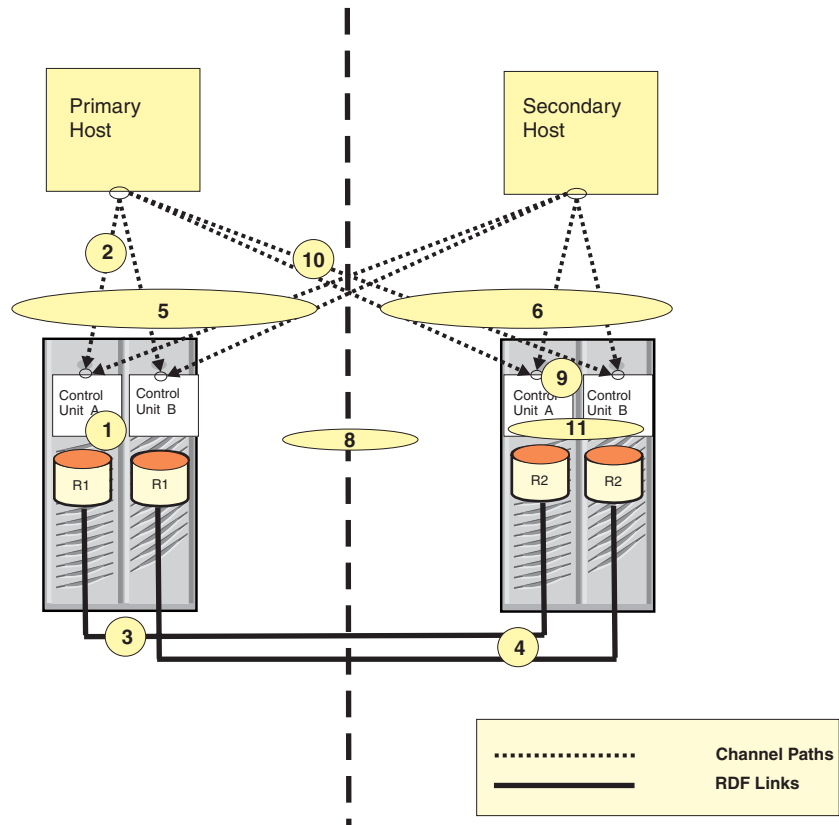

Figure 1-2 Possible Failure Events
Storage configurations can present a large number of potential failure events. Figure 1-2 on page 1-10 identifies 11 possible events:
These failure types marked in Figure 1-2 include loss of all channel paths, loss of a control unit, loss of one or more devices, loss of the SRDF communication path, and so forth. However since the protection operates on a device group level, only four of the labelled types require attention:
- ◆ SRDF link failure: A failure in moving data from an R1 to its partner R2. (Callouts 3¹ or 4 in Figure 1-2.)
- ◆ Primary channel failure: Inability to communicate with an R1 using the primary channel paths. (Callout 2 in Figure 1-2.)
1. Callouts are the circled numbers in Figure 1-2.
- ◆ Secondary channel failure - Inability to communicate with an R2 using the secondary channel paths. (Callout 10 in Figure 1-2 on page 1-10.)
- ◆ Site communication failure - Loss of inter site connectivity. (Callout 8 in Figure 1-2 on page 1-10.)